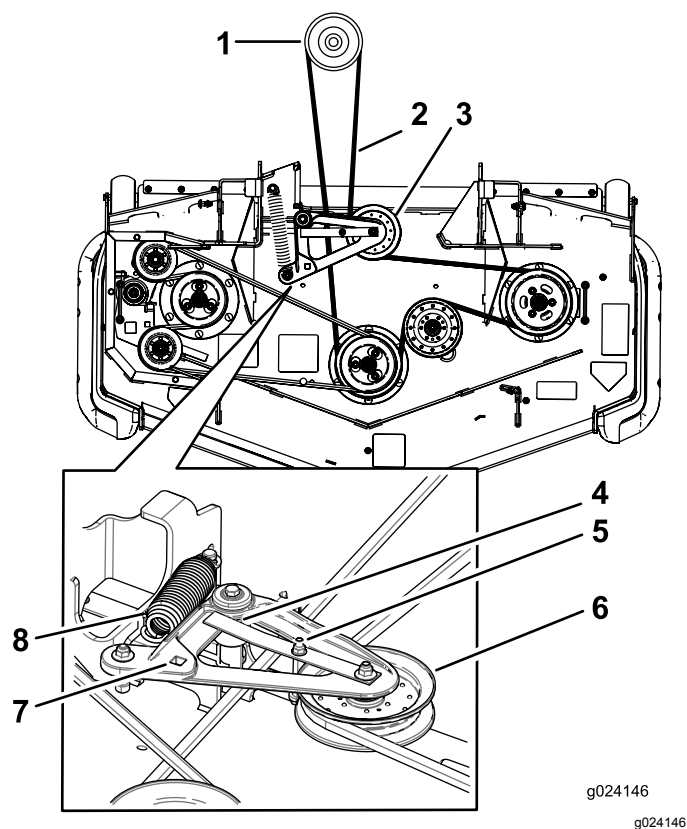

Figure 79
6. Use a ratchet in the square hole in the idler arm to remove tension on the idler spring (Figure 79).
8. Lift up on the belt-guide tab and remove the existing belt (Figure 79).
9. Install the new belt around the mower pulleys and the clutch pulley under the engine (Figure 79).
10. Rotate and ensure the belt-guide tab hits against the pivot hub Figure 79.
11. Using the ratchet in the square hole, install the idler spring (Figure 79).